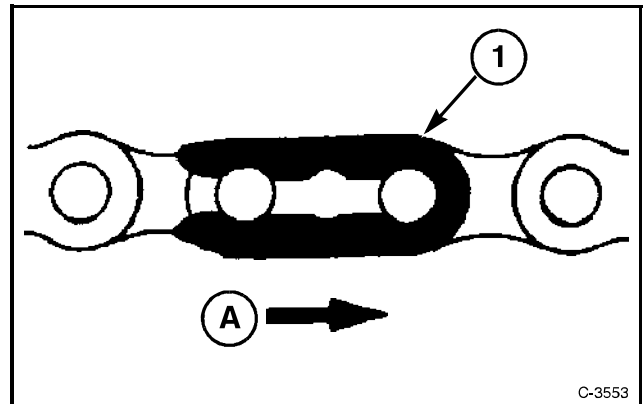

FIG. 13
FIG. 13: Spring clip connectors (1) must always be installed with the open end of the clip trailing the direction of travel (A). Installing the spring clip in that direction helps to prevent the loss of the spring clip while the baler is running.